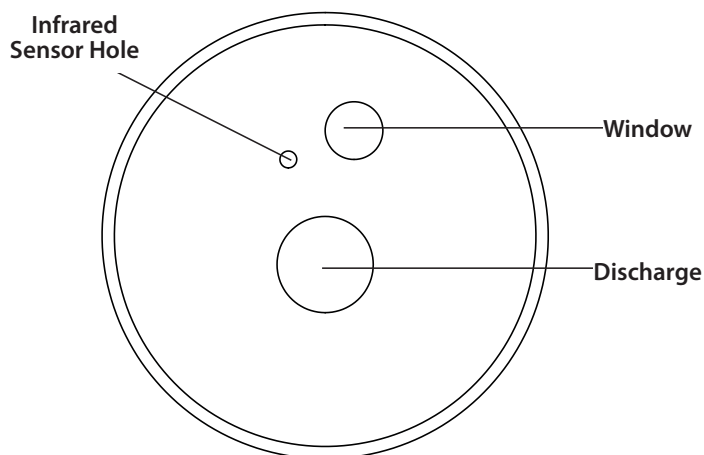

FIG. 27
Install the Dust Sentry Infrared Sensor (J) to the Drum Lid's (K) pre-cut hole [FIG. 27]. Ensure that the additional hole is sealed with the Plug (G20).